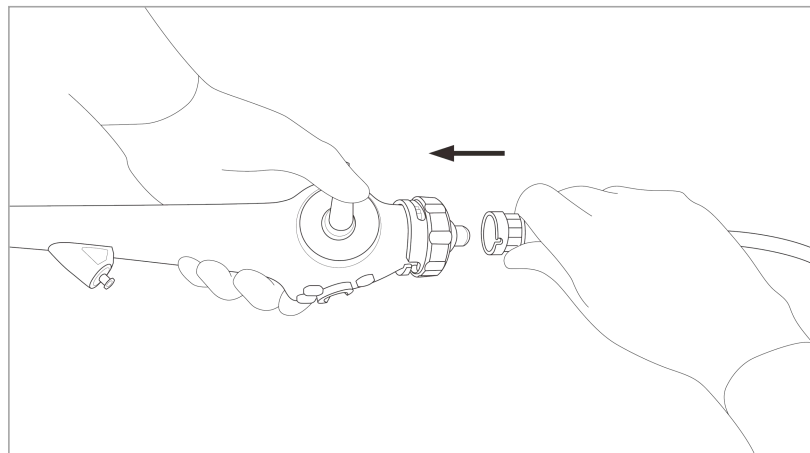

Fig. 7.12
4. Align the seam in the leak detection cover with the pin on the waterproof cap of the Small Animal Endoscope. Push the cover and turn it clockwise (as shown in Fig. 7.12).